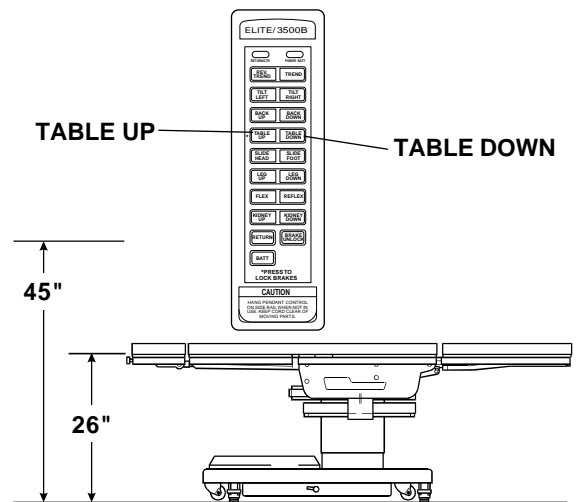

Figure 3-10. Elevation Function
e. Elevation. To raise table top, press the TABLE-UP button (figure 3-10.). The table will lift a patient weight of 500 pounds up to a maximum height of 45". To lower the table top, press the TABLE-DOWN button. The table top will go down to a minimum height of 26" (minus pad).